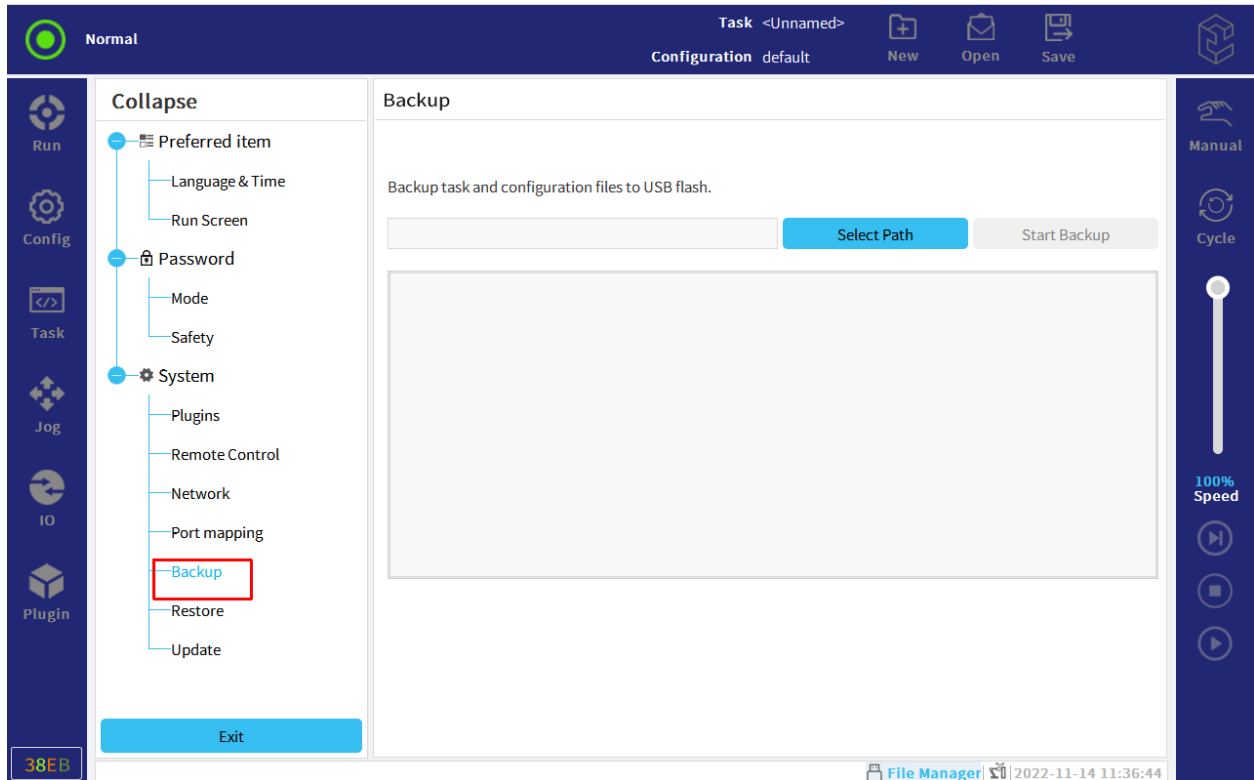

Figure 9-6 Backup
2. Select "Settings > System > Backup", as shown in Figure 9-6.